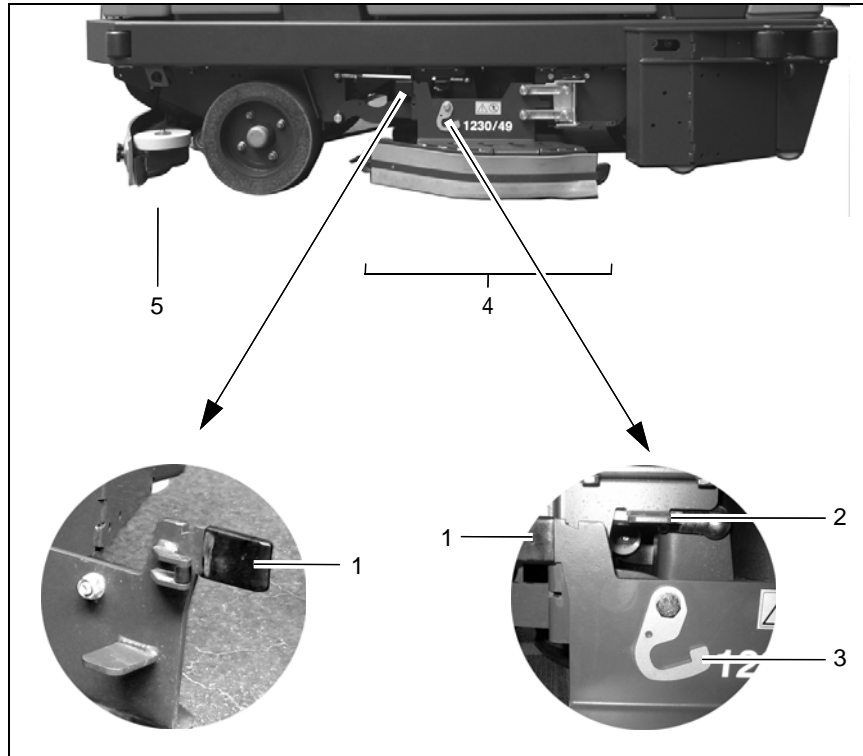

Fig. 13
3.1.1 Scrubbing unit (Fig. 13/4)
(Fig. 13/4)
The deflectors can be raised, if necessary. This is the case for basic cleaning, for example, where the floor only needs to be scrubbed when wet and the solution is not vacuumed up but allowed to soak in instead. To raise the deflector, take hold of the grip (Fig. 13/1), raise it and hook the locking hooks (Fig. 13/3) in the recesses in the angle (Fig. 13/2) above it. Proceed in the same way on the other side of the side of the vehicle.
3.1.2 Squeegee (Fig. 13/5)